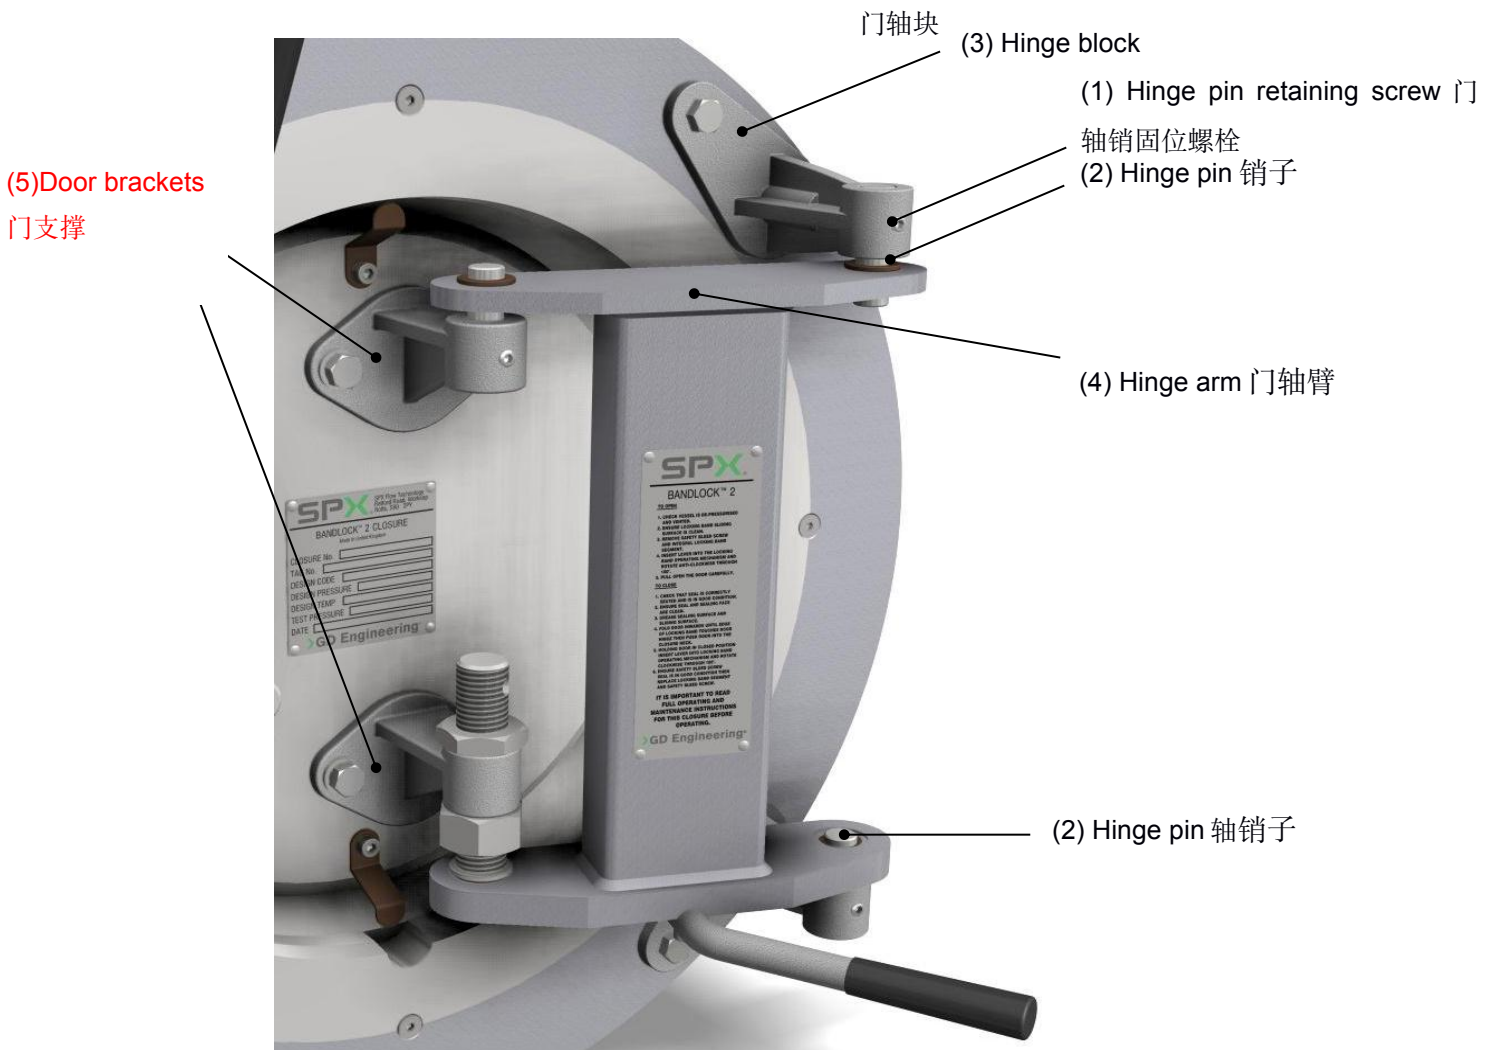

Fig 4.0 – Closure Door Removal / Re-installation (门拆除及重安装)
- 2 Ensure that the Bandlock™ 2 Closure door is adequately supported in an approved sling (some larger doors may have a lifting eye provided for additional safety). Referring to Fig. 4.0, loosen the hinge pin retaining screw (item 1) and remove the hinge pin (item 2) connecting the hinge block (item 3) to hinge arm (item 4). 确保门被吊索足够支撑（大尺寸的门安装有吊眼），拧松上图的第一项-门轴销螺栓，第二项-销子。
- 1 Ensure that the closure door is adequately supported in an approved sling (some larger Bandlock doors may have a lifting eye bolt provided). Refit the hinge pins (Fig 4.0 item 2) and tighten their retaining screws (Fig 4.0 item 1).
确保门被支撑（吊住），（一些大尺寸的门装有提升耳），安装轴销（图 4.0 第 2 项），拧紧螺栓。